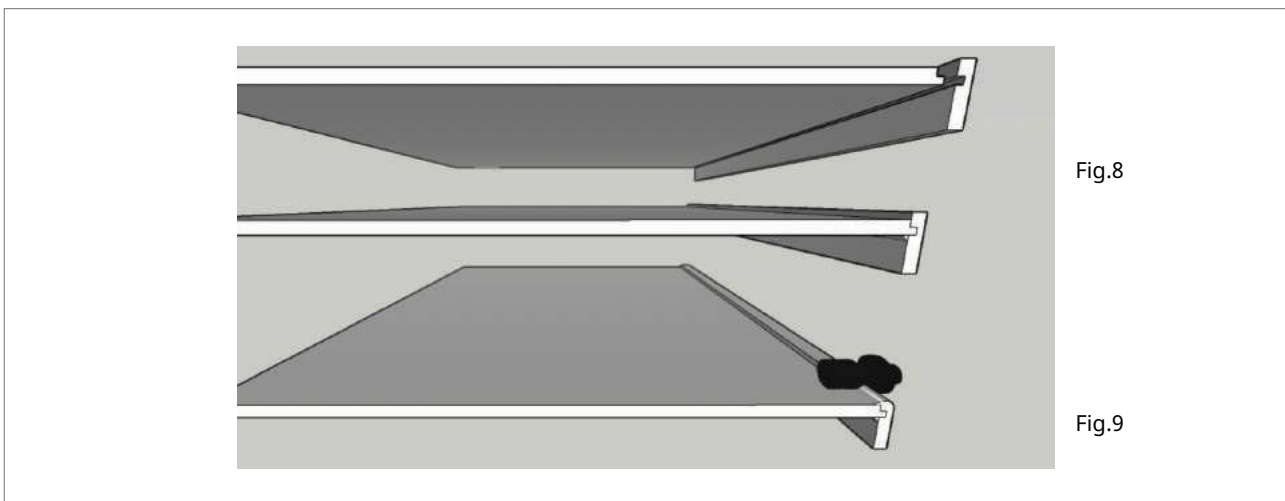

Fig.8 & 9
- When it comes to a 'waterfall' edge, the top sheet will need to be rebated while the edge will need grooving. Fig. 8.
Ensure that the connection between the rebate and the groove is neither too tight nor too slack. Fig.8. Clamp the section together using sash clamps and allow the adhesive to fully cure. Machine the two edges using a purpose made router tool with a Nylon bearing, working from the top edge. Fig.9. (alternative: place profile to edge in advance due machining)